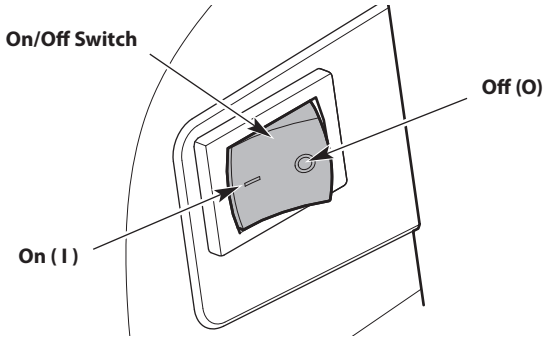

Fig. 11
NOTE: There is no need to turn the unit on. The On/Off switch is in the **On (I)** position at all times (Fig. 11).
2. Press and hold the On/Off switch in the **Off (O)** position until the engine comes to a complete stop (Fig. 11).